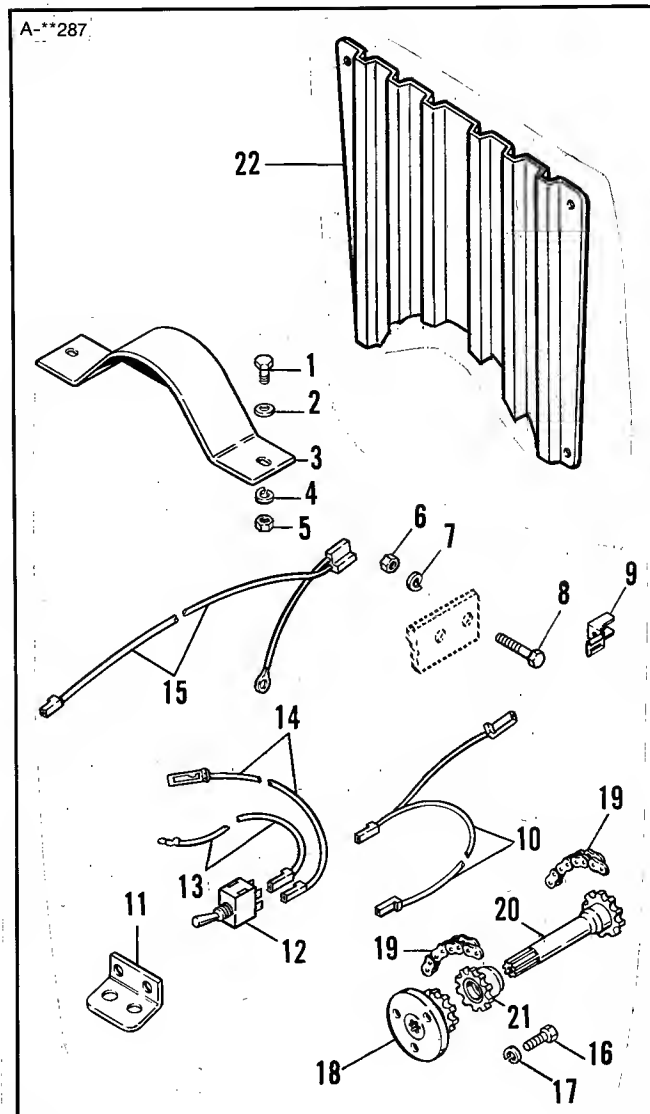
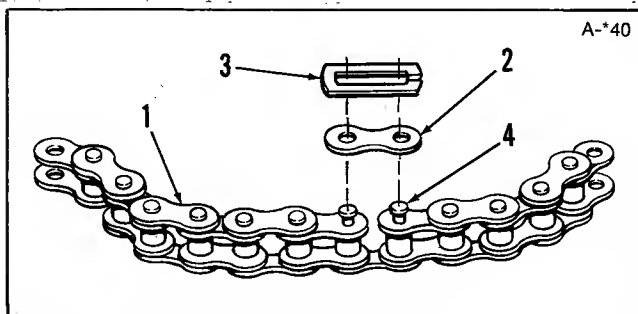

Figure 1.
Figure 2. Chain Connecting Link
1. Lay out the parts shipped with the electric clutch (figure 1). (The electric clutch is not shown).
10. Reinstall the grille frame and the new grille (22, figure 1). Do not tighten hardware until after side panels are installed.
11. Install the clutch guard (3, figure 1) with two 5/16 x 3/4 capscrews, 5/16 plain washers, 5/16 lockwashers and 5/16 nuts. Install capscrews and plain washers from top.
3. Install the crankshaft adapter (18, figure 1) to the flywheel with three M10 x 1-1/4 x 25 mm capscrews and lockwashers. Torque capscrews to 32 ft. lbs. (43.3 N.m). (On 4WD models, reach between engine and radiator to tighten bolts).
4. Start one of the chains (19, figure 1) onto the adapter (18). Turn the adapter (by turning fan), placing the chain on the adapter, until the chain is resting on top of the adapter.
5. Place the sprocket (21, figure 1) in the chain. Wrap the chain around both sprockets and connect at the bottom with the master link (figure 2). The open end of the connecting link should be opposite direction of engine pulley rotation.
6. Apply oil to the spline of the shaft sprocket (20, figure 1). Align the splines, and insert the shaft into sprocket (21).